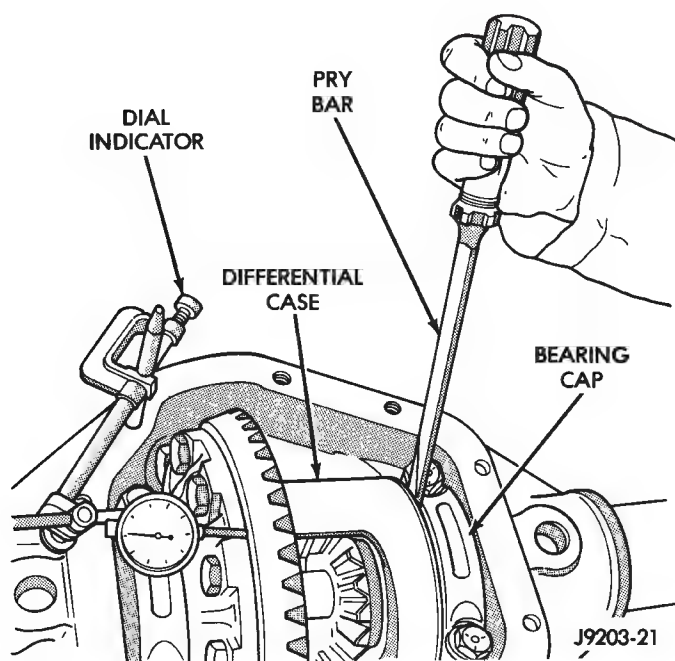

Fig. 43 Differential Case End Play Measurement
(2) Install a pilot stud at the right side of housing. Attach Dial Indicator to the pilot stud. Load indicator plunger against the back of the ring gear (Fig. 43).
(3) Insert a small pry bar between the bearing cap and left side of differential case. Pry the case as far as possible to right side (Fig. 43). Zero the dial indicator pointer.
(4) Pry the case to left side and **record** the travel distance.